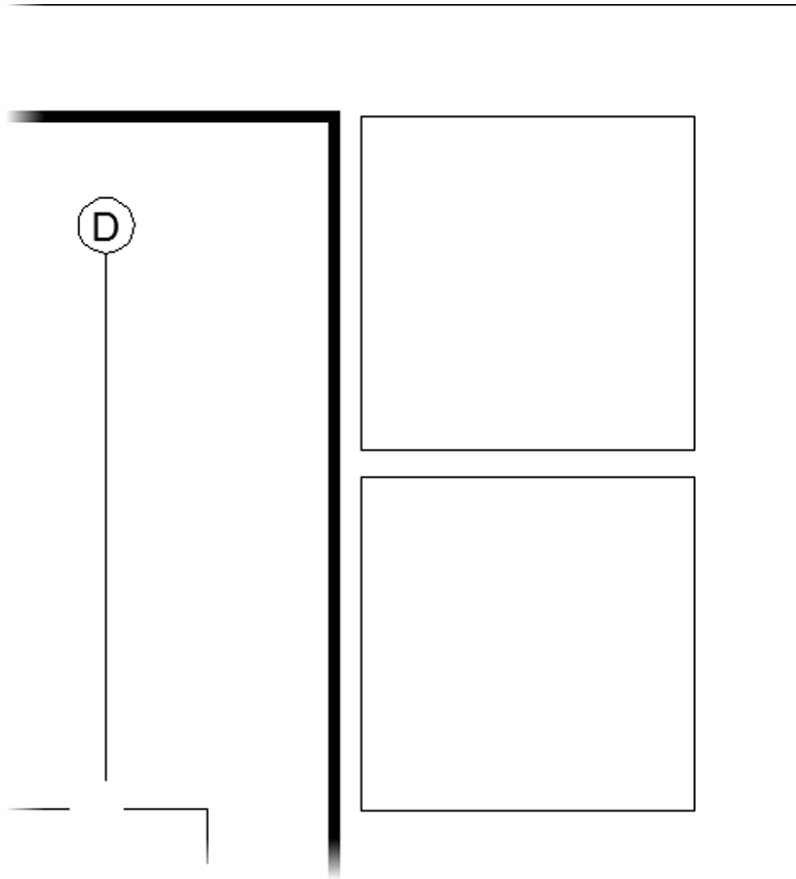

FIGURE 8.45: Accurately positioned 72" × 72" (1900 mm × 1900 mm) title-block components
9. Enter **72,-72 (1900,-1900)** at the Specify other corner point prompt to complete the rectangle. The top rectangle shown in Figure 8.45 is drawn.
10. Using the same process, acquire a point 6" (150 mm) below the rectangle; create another 72" × 72" (1900 mm × 1900 mm) rectangle, shown as the bottom rectangle in Figure 8.45.